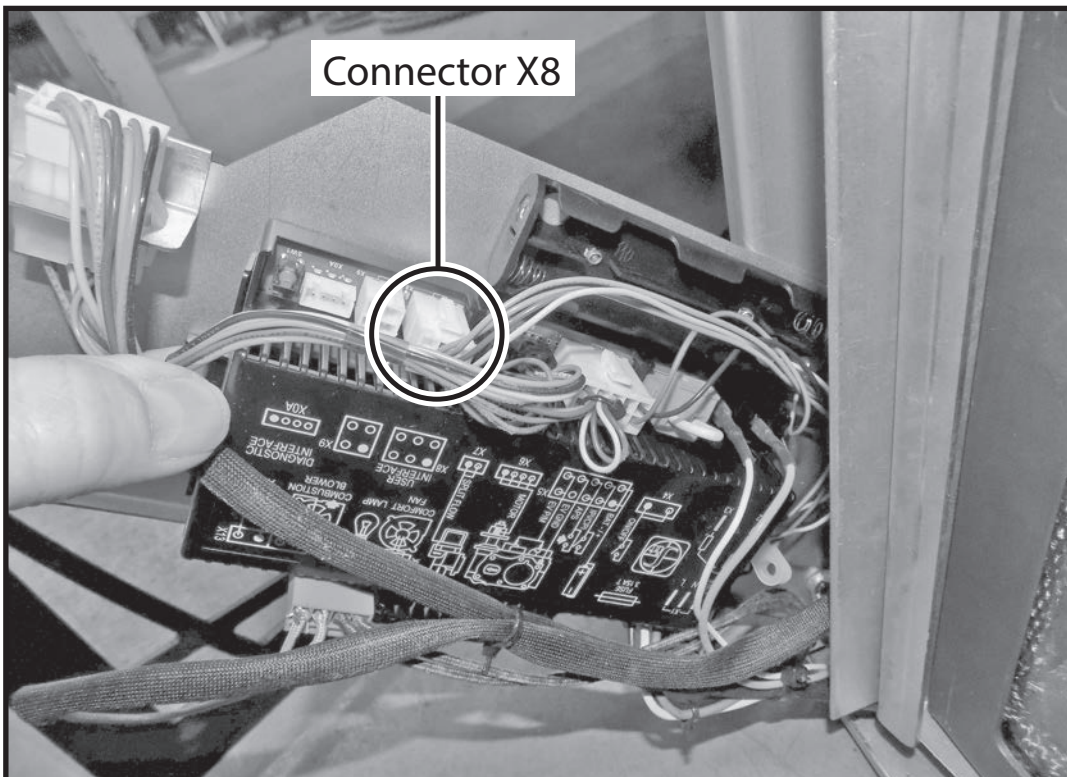

Figure 75: SIT manual switch connection at SIT module.
1. Check that the ON/OFF Switch cable is plugged into the SIT module (jack X8) as shown in Figure 75.